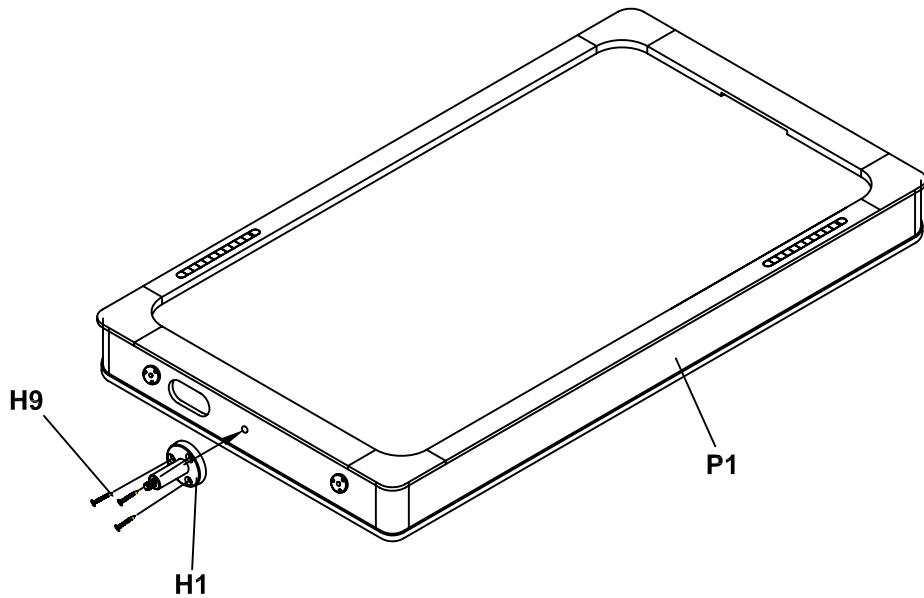

FIGURE 1
2. Attach the shoulder bolt **H1** to the end panel of the table using screws **H9** as shown in **FIGURE 1**.